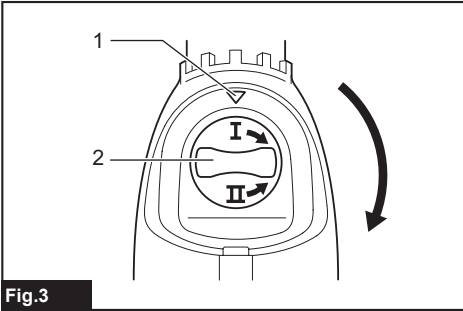

Fig.3
- **Fig.3:** 1. Arrow 2. Speed change knob